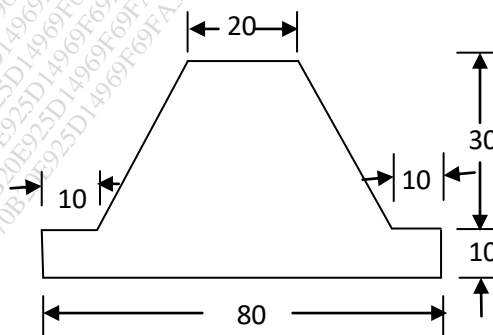

Fig.1
- b) A profile milling operation is to be performed to generate the outline of the part as shown in fig. 1. The part thickness is 15 mm, cutter diameter is 14 mm and cutter speed is 500rpm. Write down the complete APT programme consisting of:-